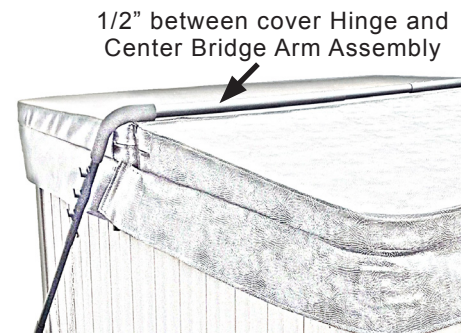

Figure 4
With the top section of the Lifter laying on the spa cover. Adjust and center the **Center Bridge Arm** and **Top Corner Support Arms** so that the **Bridge Arm** is lying parallel to the spa cover's hinge about 1/2" away (See Figure 4). Position the **Side Bridge Arms** in the center of the **Top and Lower Corner Arms** and attach with the **#10 self-tapping screws (J)**. Using the **#10 self-tapping screws**, fasten all **Corner Arms** and **Bridge Arms** together.